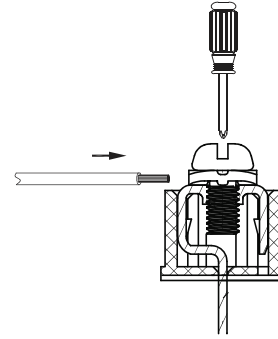

Fig. 21 — Connecting Communication Wire to Outdoor Unit Communication Terminal
3. Use a suitable screwdriver to fix the communication wire on the outdoor unit communication terminal as shown in Fig. 21 below.